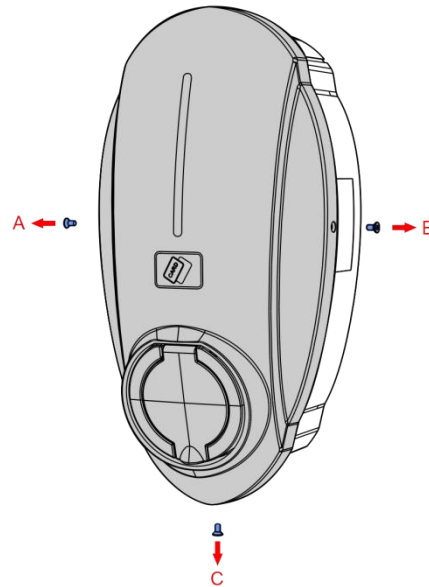

Figure 4.3-1
1) The steps for removing the cover plate of the socket and cable are the same, as shown in Fig. 4.3-1. Remove the screws A, B and C of the charger cover plate, and then open the cabinet cover plate.